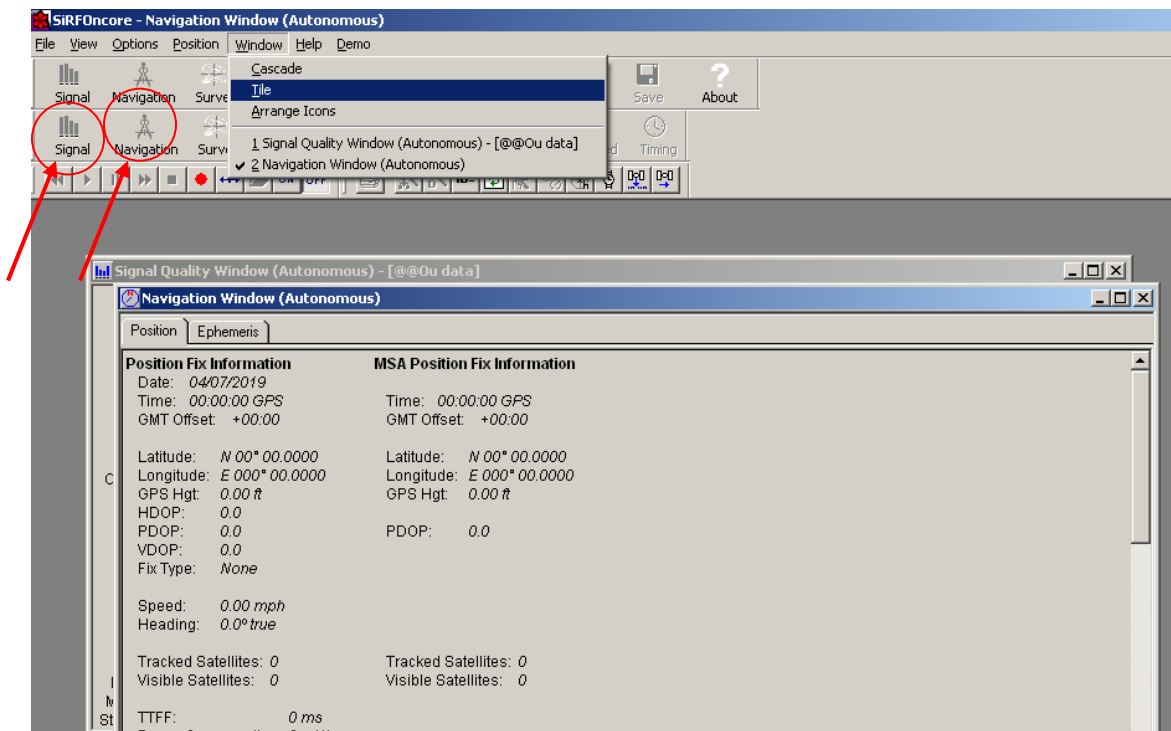

Figure 7 SiRFOncore Open Windows
1. Click on “**Signal**” button (as shown in figure 7)
2. Click on “**Navigation**” button (as shown in figure 7)